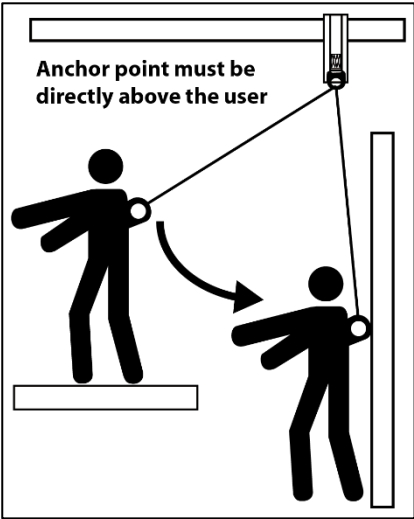

Fig. 5
- 1) To minimize the possibility of a swing fall hazard, install the device directly over the work area (see fig 5, page 10.)